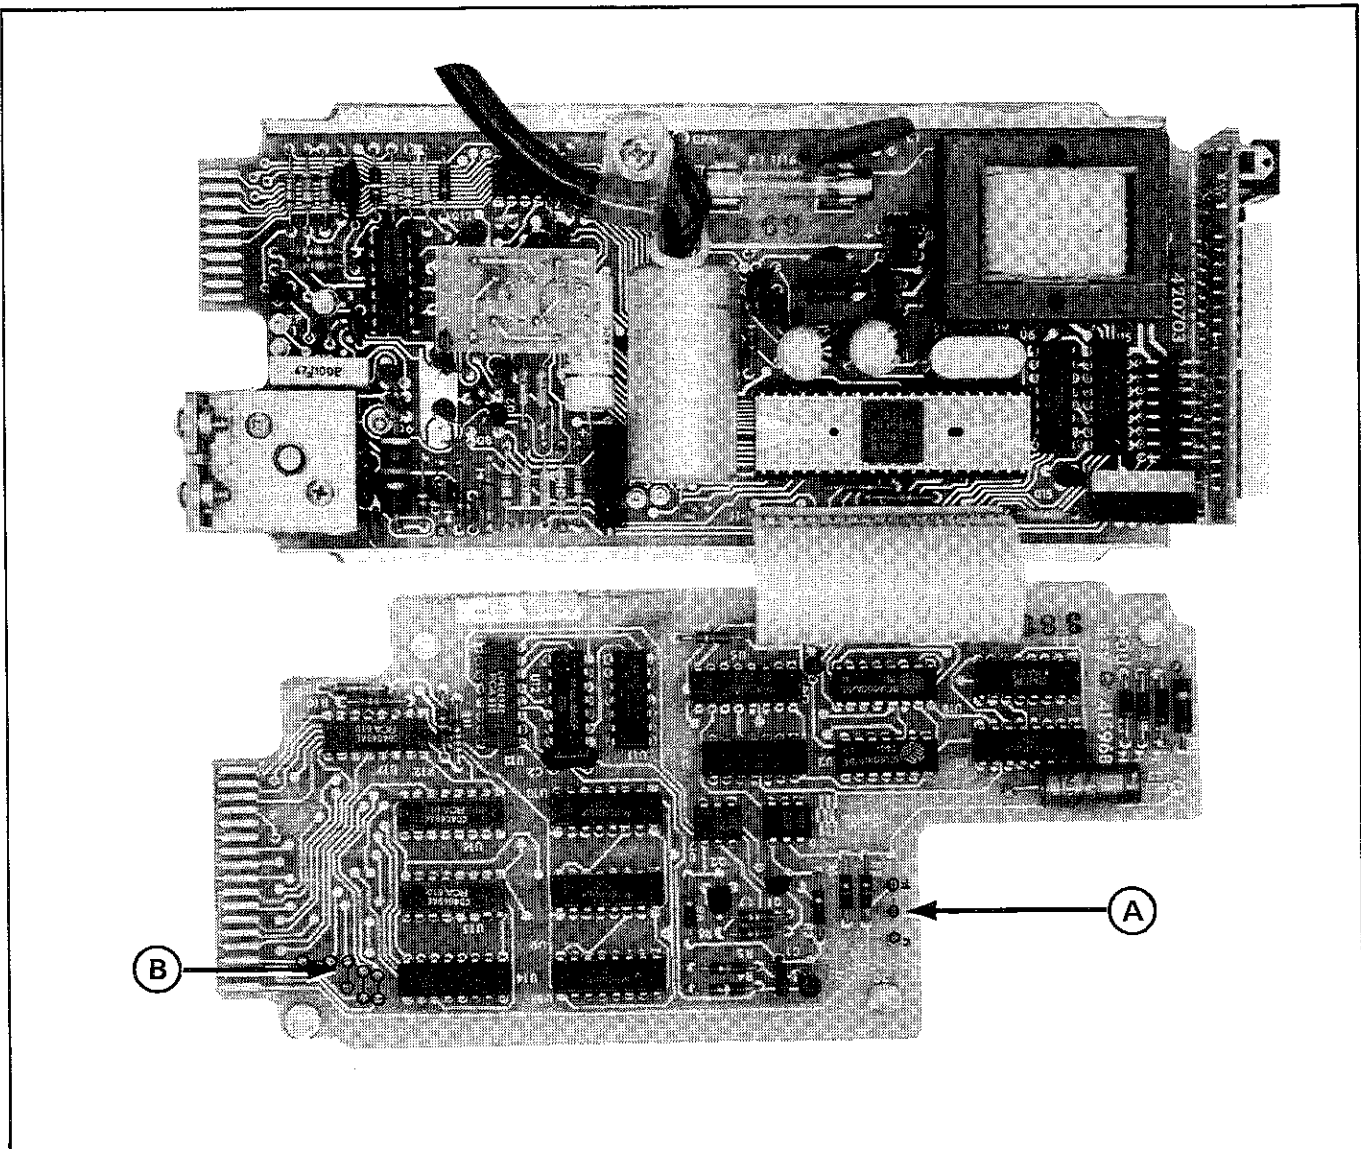

Figure 602-1
- c. Position the thermometer pcb assembly and the Digital Output Unit pcb as shown in Figure 602-1.
- d. Carefully plug the Digital Output Unit's flex cable into the connector provided on the thermometer pcb. See Figure 602-1.
- between the appropriate terminals ($^{\circ}\text{C}$ or $^{\circ}\text{F}$) as shown in Figure 602-1 location A.
- f. Refer to location B in Figure 602-1 and check the Digital Output Unit pcb to see if four jumpers are installed in that location. They must be installed if the pcb is being used in a Model 2170A, 2175A or 2176A and must be removed if the pcb is being used in a Model 2160A, 2165A, 2166A or 2168A. These jumpers are included as part of the mounting hardware.